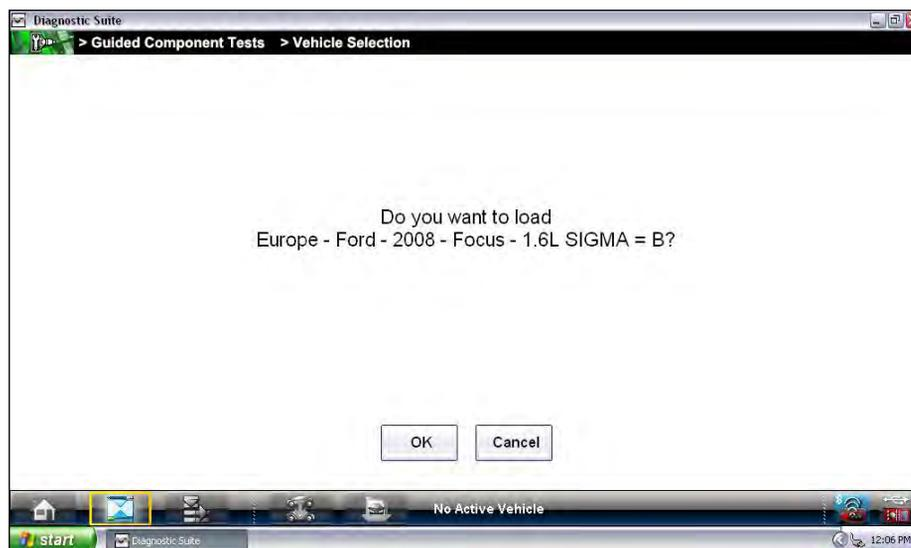

Figure 7-3 Sample confirmation dialog box
6. Select **1.6L** from the engine list and a confirmation dialog box displays (Figure 7-3).